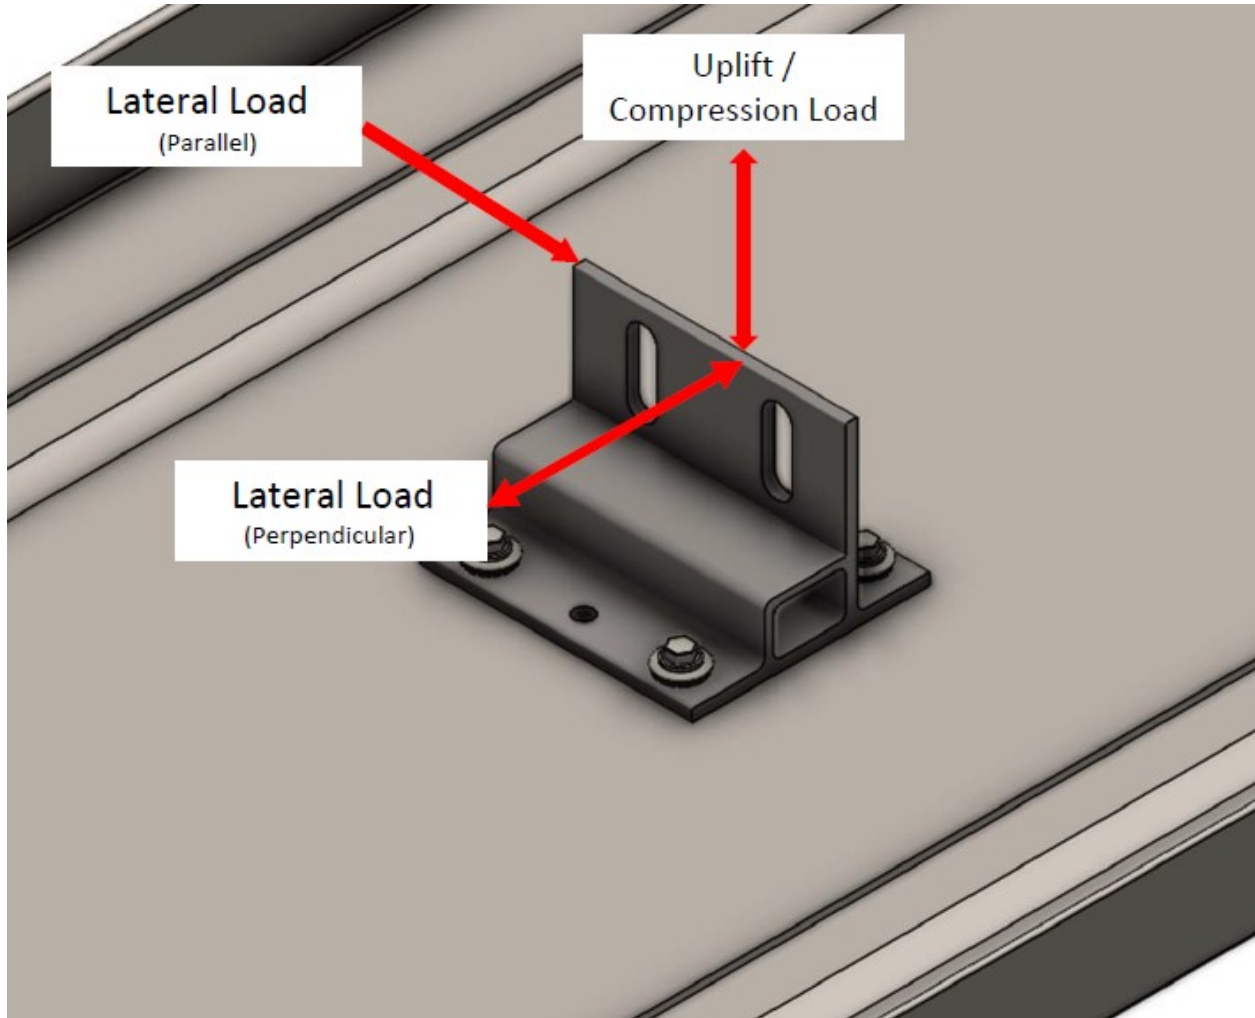

Figure 1.1: Splice Foot XL: Force Loading Diagram (metal deck)
1. Figure 1.1: Splice Foot XL – Force loading diagram (deck)
1. Determined using ESR-4009 ICC-ES Evaluation Report on EJOT JF3 fasteners. 2. Determined using ESR-3064P ICC-ES Evaluation Report on Screw Capacities in thin sheet metals. 3. Reference Figure 1.1 for load direction and application. 4. The effect of bolt slippage has not been evaluated.